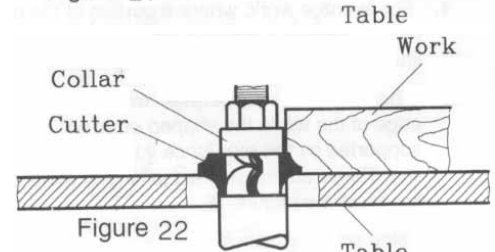

Figure 22
2. When the collar is used above the cutter, as shown in Fig. 22, the cut cannot be seen, but this method has two advantages. Variations in stock thickness do not affect the cut and any lifting of the stock, which reduces the cut, can be corrected by a second pass by the cutter.